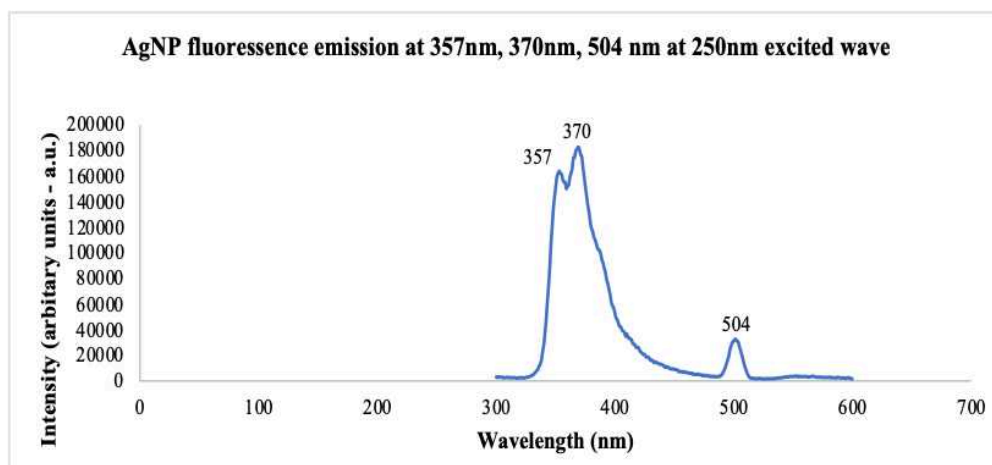

Figure 4. Representative fluorescence under an excitation of 250nm from synthesized sample
- If processing a large batch of samples (>20), scan a blank cuvette every 7 samples as a quality control (QC) procedure
- A representative fluorescence emission for the AgNP solution using an excitation wavelength of 250nm is shown in **Fig 4**.